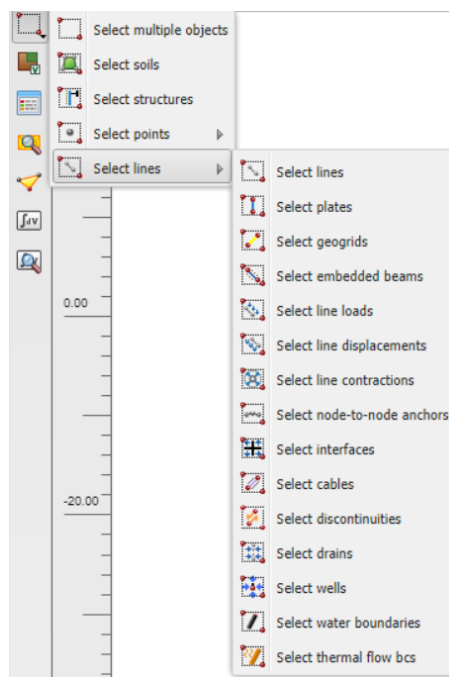

Figure 48: Select multiple objects
2. Click the **Select multiple objects** button in the side toolbar. In the appearing menu select **Select line** > **Select plates** as shown in Figure 48 (on page 63).